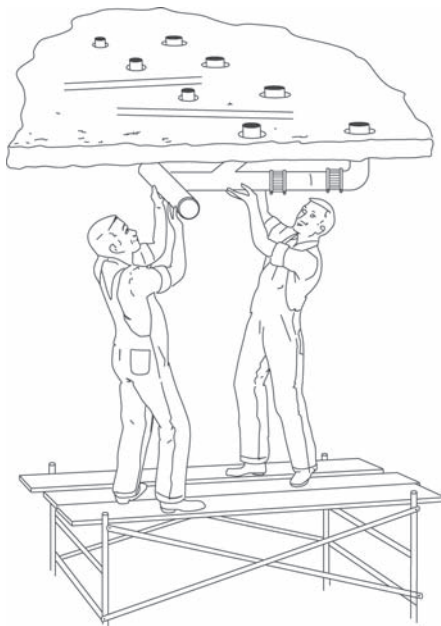

Figure 1. Installing floor-mounted fixtures.
- No scaffolding, ladders or similar supports are required, since all the roughing is done on the floor and not in the ceiling below (see **Figure 1**).